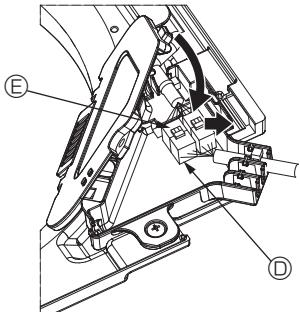

Fig. 5-10
- After placing the wires in the connector box, close the connector box cover. Make sure that the wires do not get pinched. (Fig. 5-10)